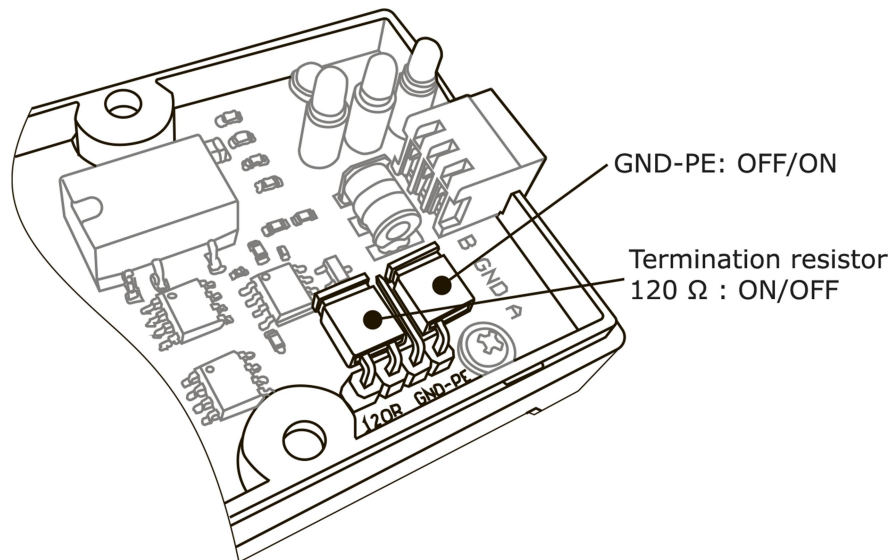

Fig. 3. Position of jumpers under the unit housing: 120 Ω termination resistor and protective earth (PE)
To improve noise immunity, it is recommended to use a shielded twisted pair with grounding for connecting data lines A and B – see Fig. 2a. In the case of a short RS-485 line with no interference, it is permissible to connect protective earth (PE) and the interface signal ground (GND) inside the interface converter – see Fig. 2b. To do this, set the GND-PE jumper under the converter housing (see Fig. 3).
At the end of the RS-485 line, it is recommended to install a 120 Ω termination resistor. The converter has a built-in termination resistor; no additional resistor is needed on the converter side. If the converter is installed in the middle of an RS-485 line and connected to a USB port of a computer that is not the master, remove the jumper under the housing to disable the built-in termination resistor (see Fig. 3).